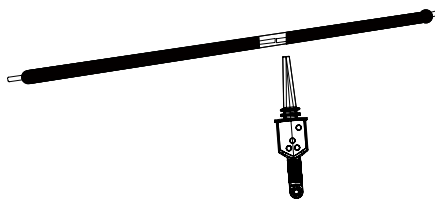

Fig. 3 Finding a break/open
**Locate breaks in insulated wire and heating elements (See Fig. 3)**